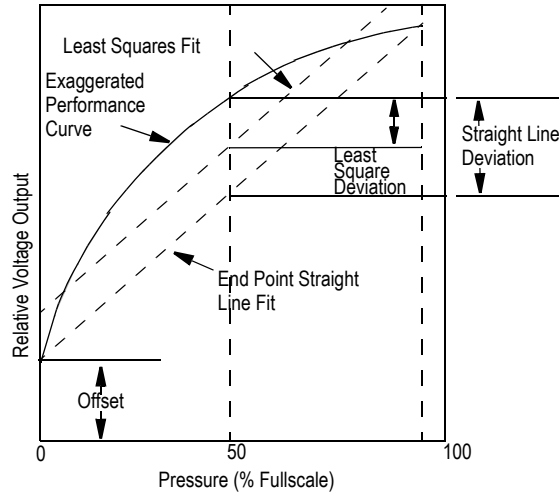

Figure 2. Linearity Specification Comparison
Linearity refers to how well a transducer's output follows the equation: $V_{OUT} = V_{OFF} + \text{sensitivity} \times P$ over the operating pressure range. There are two basic methods for calculating nonlinearity: (1) end point straight line fit (see Figure 2) or (2) a least squares best line fit. While a least squares fit gives the